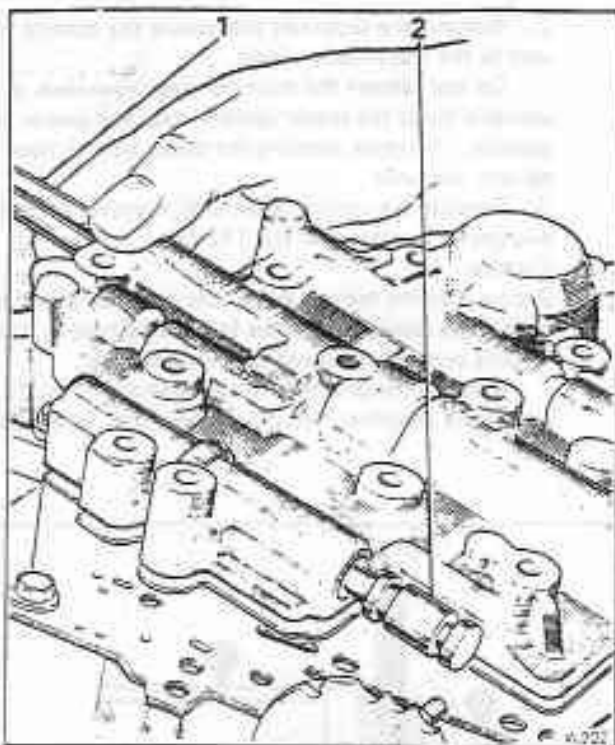

Fig. T12-12 Removing the control valve unit
3. Remove the control valve unit, together with the two governor pipes (see fig. T12-12).